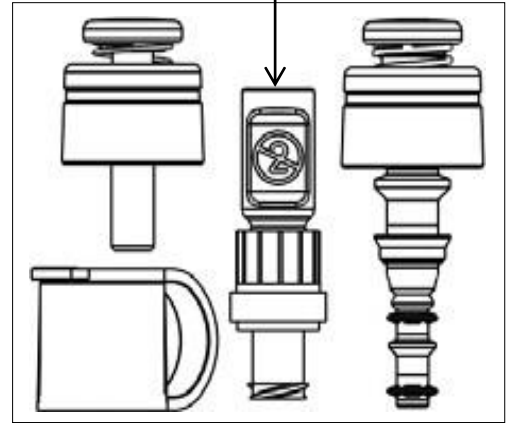

Figure 3
14. If using the 4 piece kit (See Figure 3), attach the **Torrent® irrigation scope connector**.